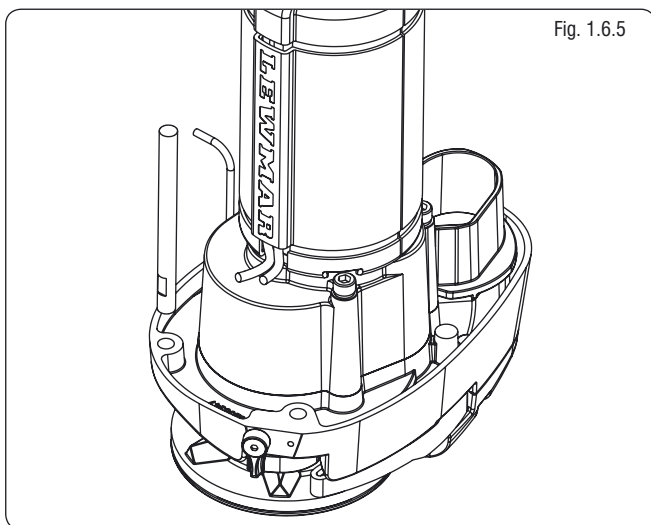

Fig. 1.6.5
- Fully screw the three mounting studs into the base of the windlass. This can be done, quite simply, using the multi-tool wrench supplied. Screw the studs into the base finger tight, with the flats towards the base as shown (Fig 1.6.5).